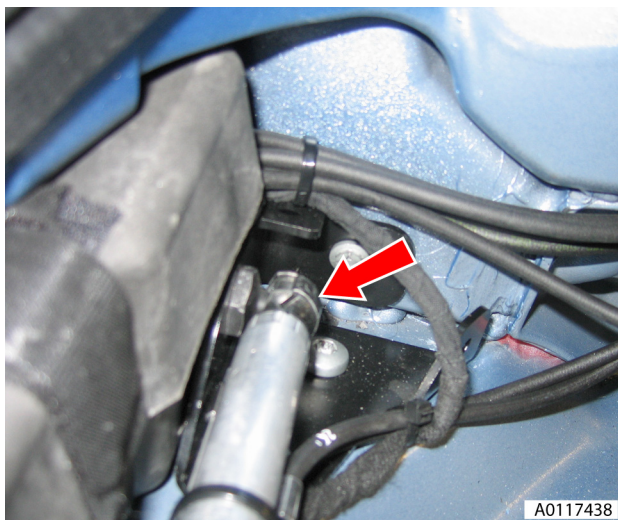

Fig. 19
37. Release cylinder lower retaining clip and disconnect cylinder from body (see Fig. 19).